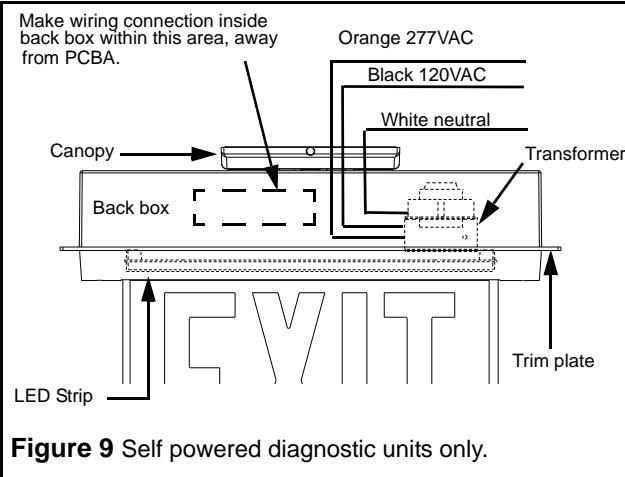

Figure 9 Self powered diagnostic units only.
- b. Make the proper connections. The system can accept input voltages of 120 VAC to 347 VAC. For regular models connect the purple (line) and white (common) leads to the building utility (figure 8). For models with diagnostic feature connect the white (common) and black (120 VAC) or orange (277 VAC) leads to the building utility (figure 9).